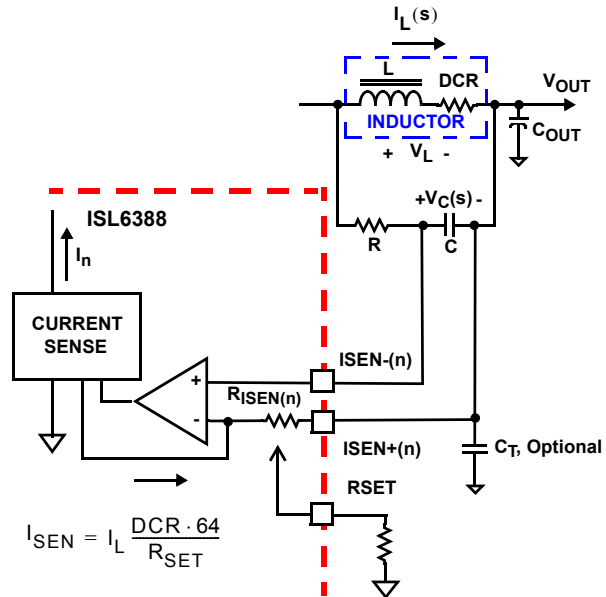

FIGURE 4. DCR SENSING CONFIGURATION
The internal circuitry, shown in Figures 4 and 5, represents one channel of the VR output, respectively. The ISEN± circuitry is repeated for each channel, but may not be active depending on the status of the PWM[6:2] pins, as described in "PWM and PSI# Operation" on page 17. The input bias current of the current sensing amplifier is typically 25nA; less than 7kΩ input impedance is preferred to minimized the offset error, i.e., a larger C value as needed.
An inductor's winding is characteristic of a distributed resistance, as measured by the Direct Current Resistance (DCR) parameter. Consider the inductor DCR as a separate lumped quantity, as shown in Figure 4. The channel-current  $I_L$ , flowing through the inductor, will also pass through the DCR. Equation 4 shows the s-domain equivalent voltage across the inductor  $V_L$ .
A simple R-C network across the inductor extracts the DCR voltage, as shown in Figure 4.
The current sense circuitry operates in a very similar manner for negative current feedback, where inductor current is flowing from the output of the regulator to the PHASE node, opposite of flow pictured in Figures 4 and 5. However, the range of proper operation with negative current sensing has a limitation. The worst-case peak-to-peak inductor ripple current should be kept less than 80% of the OCP trip point (~80μA). Care should be taken to avoid operation with negative current feedback exceeding this threshold, as this may lead to momentary loss of current balance between phases and disruption of normal circuit operation. Note that the negative current can especially affect coupled inductor designs, where the effective inductance is the leakage between the two channels, much lower than the specified mutual inductance (LM) and self inductance (L). To limit the impact, a higher RSET value (1.5x to 2x) is often used to reduce the effective negative current seen by the controller in coupled inductor designs. Refer to Intersil's application note, AN1268 for detailed coupled inductor discussion and ripple current calculation.